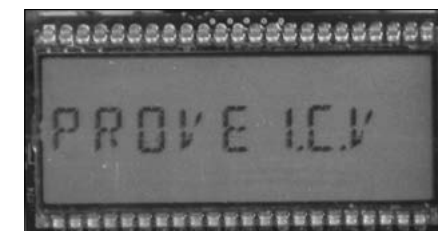

Figure 14.7 - LCD screen displays PROVE I.C.V
- B. After five seconds, the display will change to **PROVE I.C.V** (Figure 14.7).